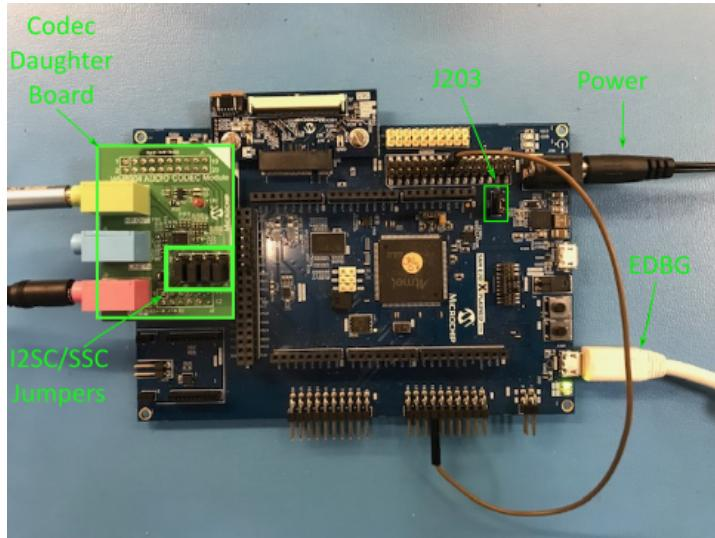

Figure 1. WM8904 Audio Codec Daughter Board on SAM E70 Xplained Ultra board. Headphone Out Jack is green. Microphone In Jack is pink
1. Attach the WM8904 Daughter Board to the X32 connector. Connect headphones (monitor headphones) to the HP OUT jack of the WM8904 Audio Codec Daughter Board (see Figure 1) and a microphone to the pink MIC IN jack (Refer to Figure 1).
2. Connect power to the board and connect the USB cable (EDBG) used for programming the device (Refer to Figure 1). Compile the application and program the target device using the EDBG. Run the device. The system then will be in a waiting for USB to be connected (amber LED1 off).
3. Connect to the USB Host via the micro-mini connector (Refer to Figure 1) located above the push-button switches on the right side of the board using a standard USB cable. The LED1 should turn to a solid amber color as the host enumerates and then initiates the audio stream.